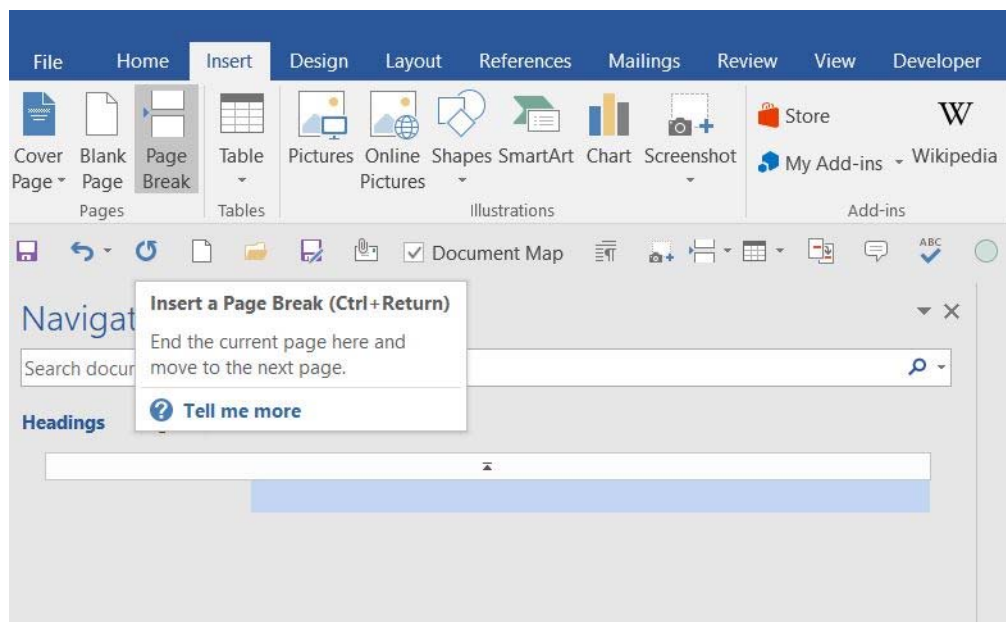

Figure 1-3, Quick-Insert Page Break
- Reference Figure 1-3, Quick-Insert Page Break below.